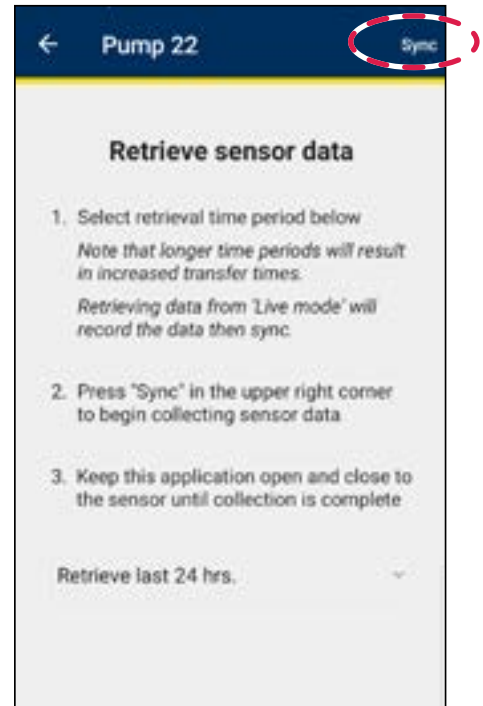

Figure 13
4. Select **Sync** (see figure 13).